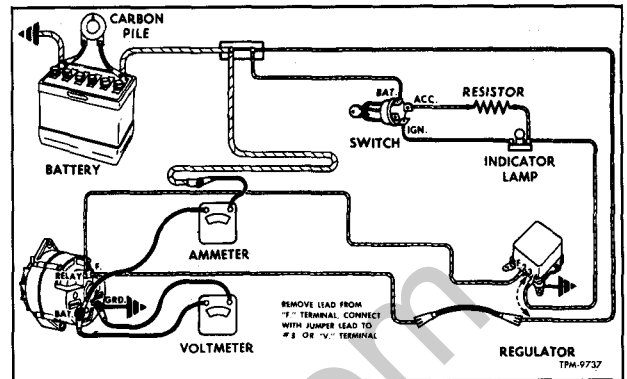

Figure 7—Connections for Testing Generator Output (Except 9000590 Regulator) (Typical)
2. Remove wire from "BAT" terminal on generator, and connect an ammeter between wire and "BAT" terminal on generator (fig. 7).
IMPORTANT: With wiring connected as shown in figure 7, the voltage regulator is taken out of the circuit, and causes field to be energized by full battery voltage. Generator output voltage must be controlled by loading the battery with a carbon